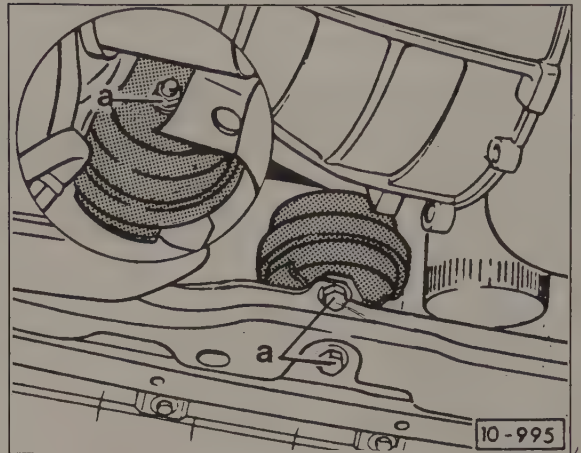

Fig. 6-18. Front hydraulic engine/transaxle mounting bolts **a**. Earlier rubber mount is similar.
15. Remove the front engine and transaxle mount as shown in Fig. 6-18. Completely remove it from the car.